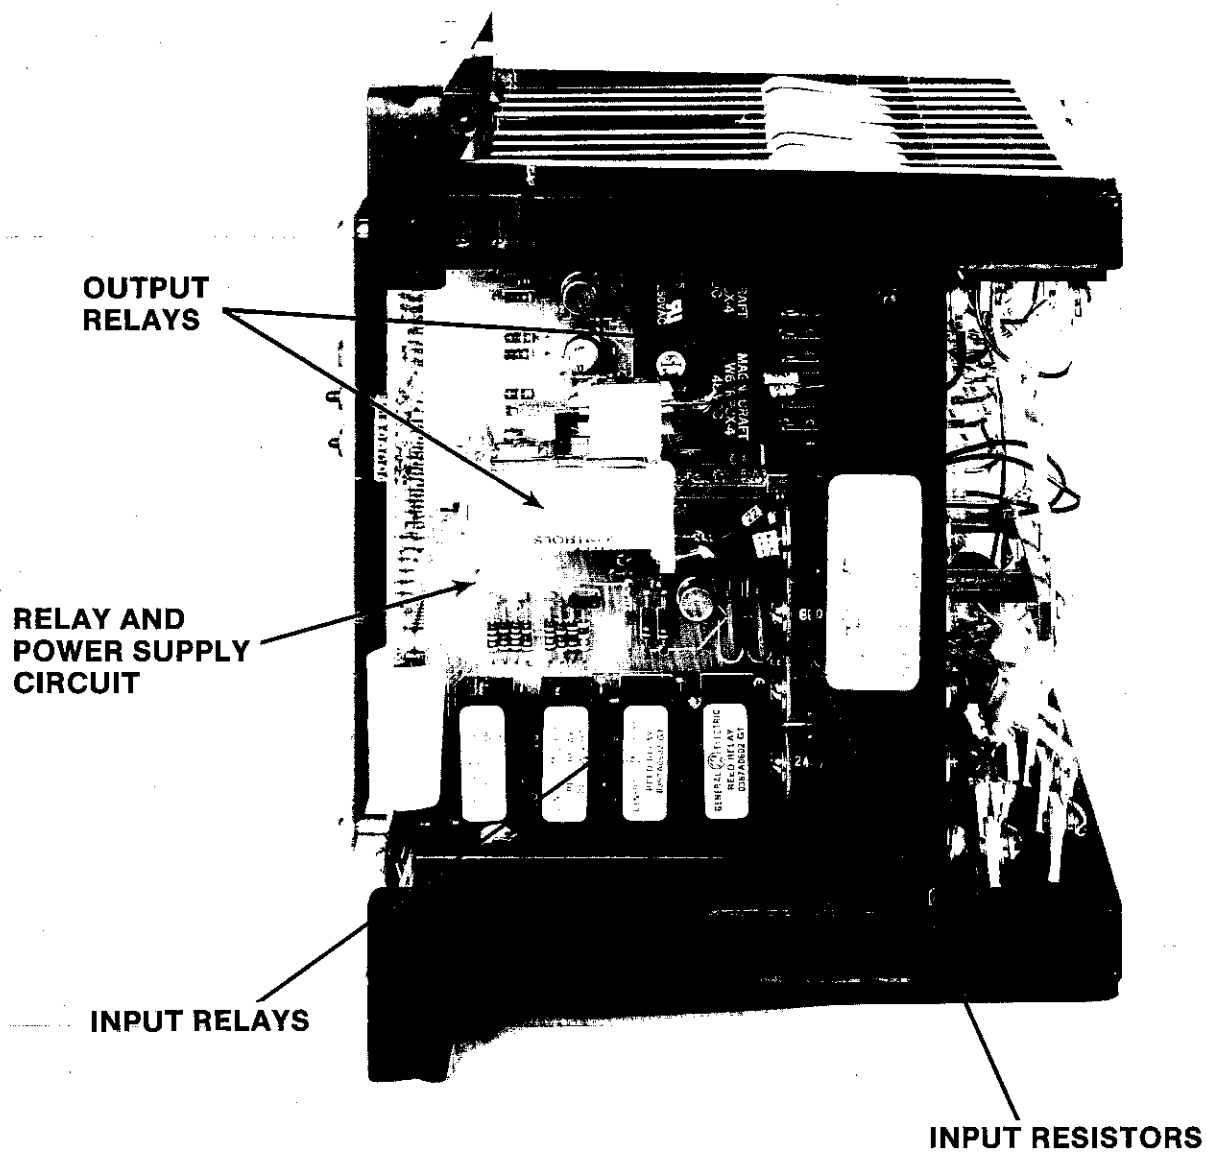

Fig. 5C (8043717-0) SLR Relay, Side View
- Fig. 5C SLR Relay, Side View